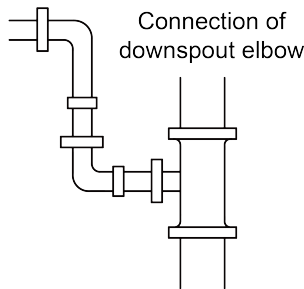

Fig.4.3.8
- No.2: Down elbow connection as shown in Fig.4.3.8;